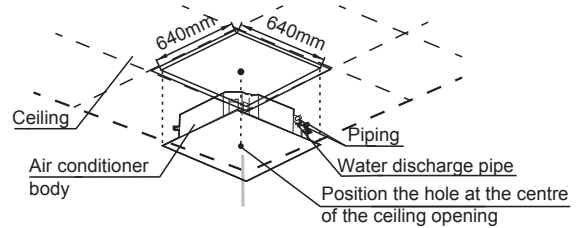

Figure 3.5
1. Drill 640 mm x 640 mm square holes into the ceiling based on the layout of the installation board (accessory 2). See Figure 3.5. See Figure 2.1 for maintenance access.